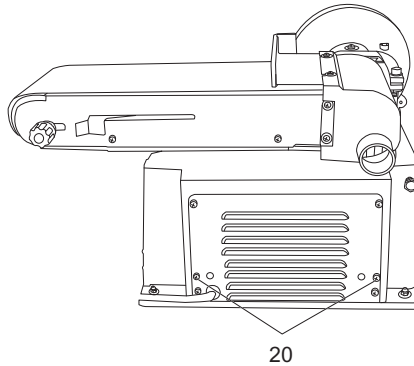

Fig. 6
> Loosen two fixing screws (20) and flat washers, then take them out. (Fig. 6)